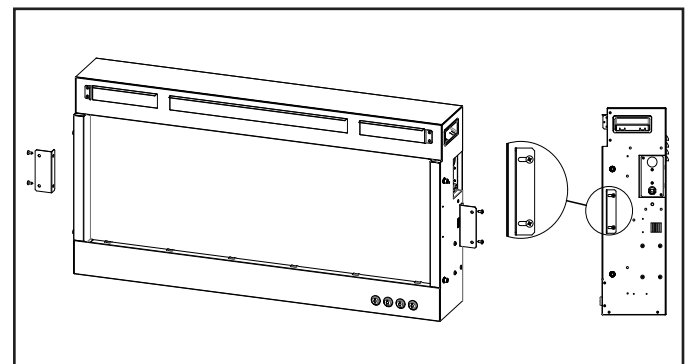

Figure 4.3 Fixing Brackets Attachment
3. Install the Fixing Brackets to the right and left side of the appliance with four (4) ST4X10 metal screws (See Figure 4.3). The attachment holes for the brackets into the appliance are slotted to allow adjustment for the thickness of the wallboard and/or any finishing materials up to a total 5/8 in. thick. It may be necessary to test fit the appliance and adjust the location of the brackets on the appliance so that the front face of the unit protrudes 1/16 to 1/8 in. from the outside face of the finished wall. See Figure 4.4 and 4.5.